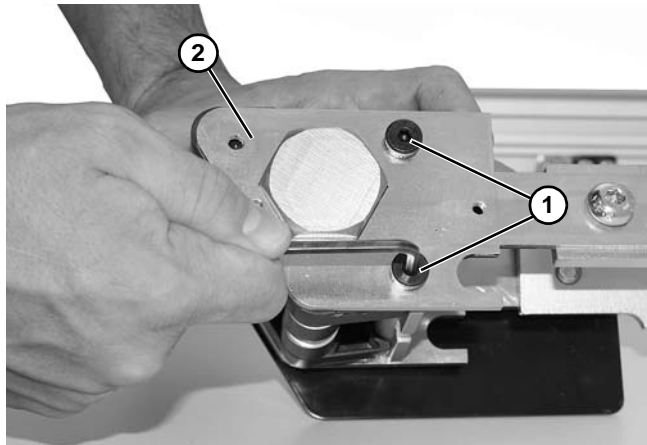

Figure 92
5. Remove shoulder screws (**Figure 92, item 1**) to remove backing plate (**Figure 92, item 2**).